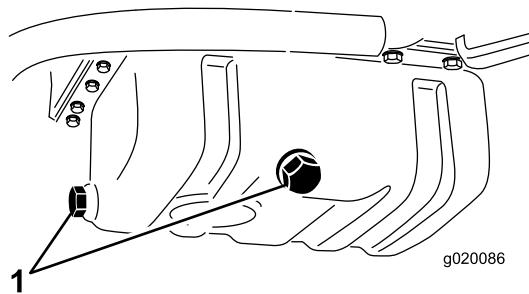

Figure 56
1. Remove either drain plug (Figure 56) and let the oil flow into a drain pan. When the oil stops flowing, install the drain plug.